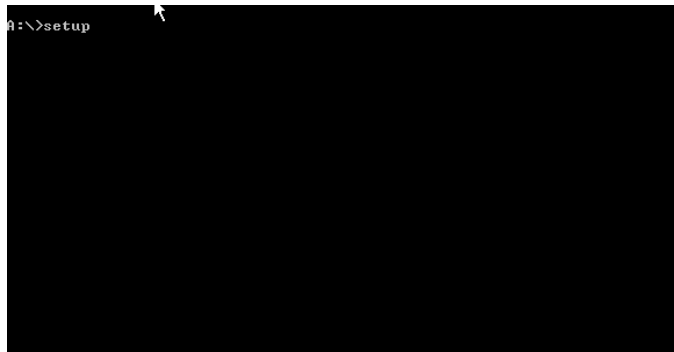

Figure 51 – DOS Prompt Installation
1. From the DOS prompt, type **a:\** and press **<ENTER>**. See Figure 51.